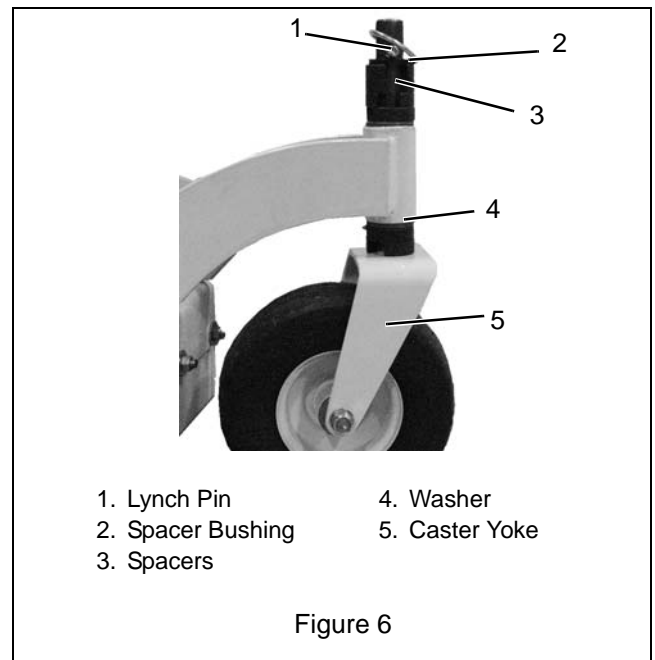

Figure 6
**IMPORTANT:** Do not allow washer (item 4 in Figure 6) to sit on caster yoke (item 5 in Figure 6). It must be on top of height-of-cut spacer bushings (item 3 in Figure 6).